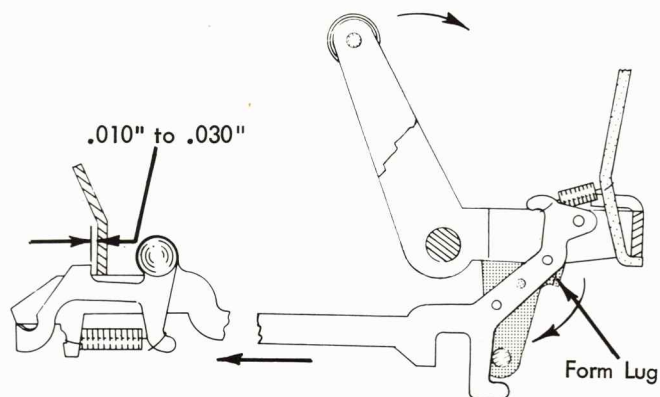

FIGURE 120. Interposer Restoring Bail Adjustment
8. Interposer Restoring Bail - Form the lug at each side of the restoring bail so that the interposers will be restored forward .010" to .030" past the latching point (Fig. 120) when either cam is operated. Be sure to check the interposers at each side and form the lug on the side being checked.